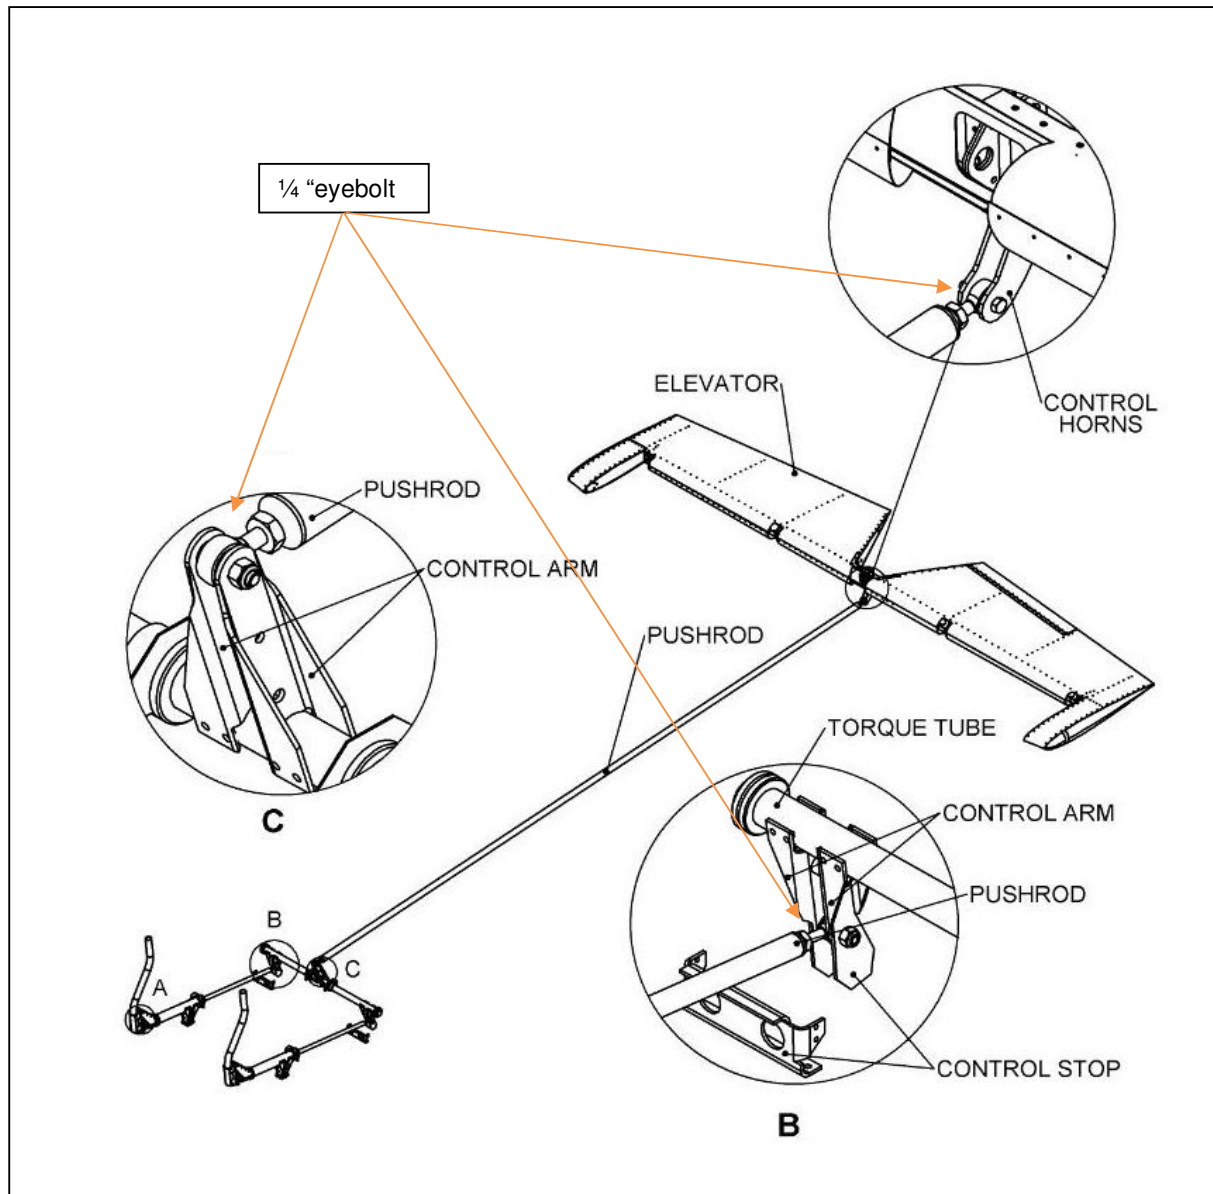
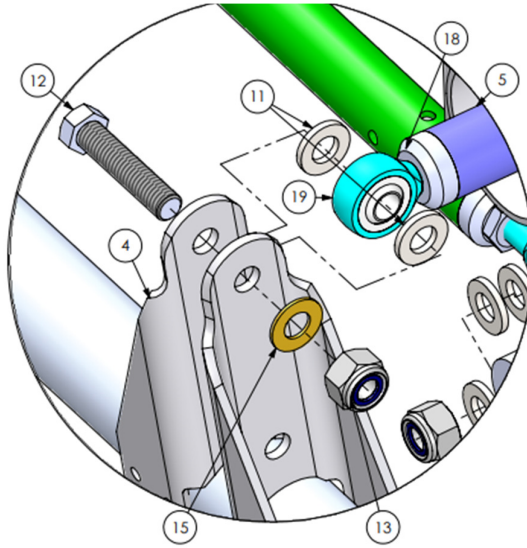

Figure 17: Sling 2 and Sling LSA elevator control system
Figure 18: Eyebolt assembly, Detail C
This section is only applicable to the Sling 2 and Sling LSA. The eyebolts used in the Sling 2 and Sling LSA elevator controls can be seen in Figure 17.
- Step 2. Inspect the eyebolts seen in Detail C of Figure 17. An exploded view of Detail C can be seen in Figure 18.
- Step 3. Refer to Figure 18. If a *noncompliant* eyebolt has been used, it must be replaced (with either a *type 1* or *type 2*). To do this, remove the AN4 locknut (13) and bolt (12). The eyebolt can now be uninstalled from the pushrod and a new one can be installed.
- Step 4. Once the new eyebolt has been installed onto the pushrod, reconnect the eyebolt assembly. Refer to Figure 18 for part layout.
- Step 5. Next, the eyebolts seen in Detail B of Figure 17 will need to be inspected and replaced if found to be *noncompliant*.